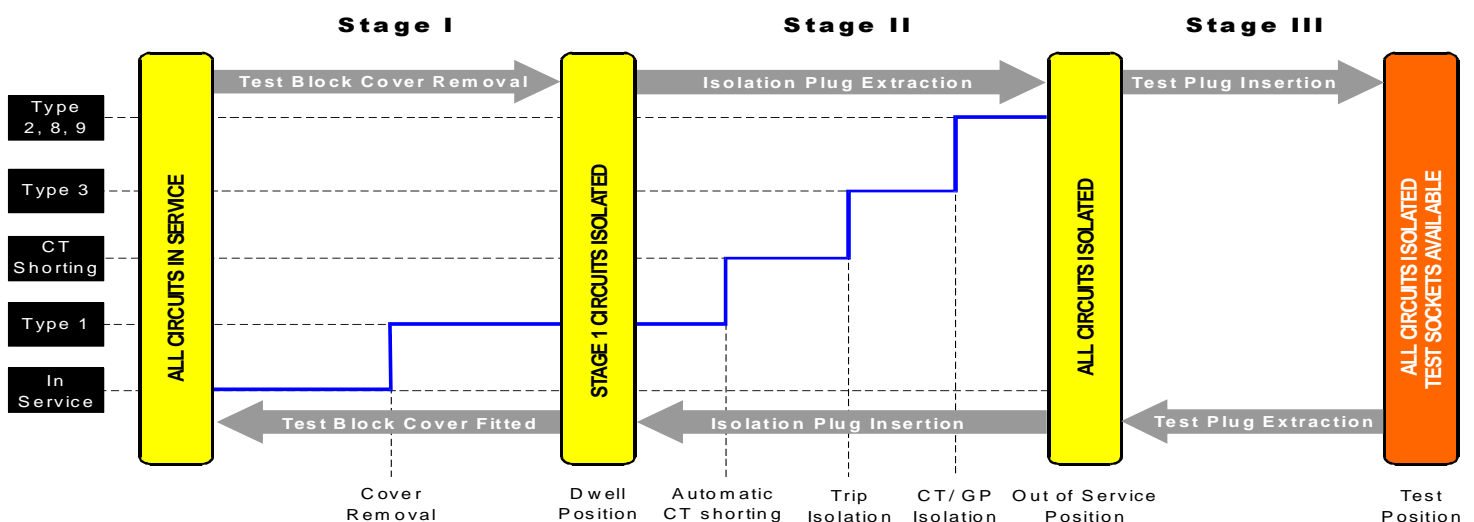

Figure 1: Timing diagram for sequential circuit isolation and CT shorting
Changing the 4M400 Test Block from the normal service condition occurs in three (3) stages as depicted in the timing diagram figure 1.